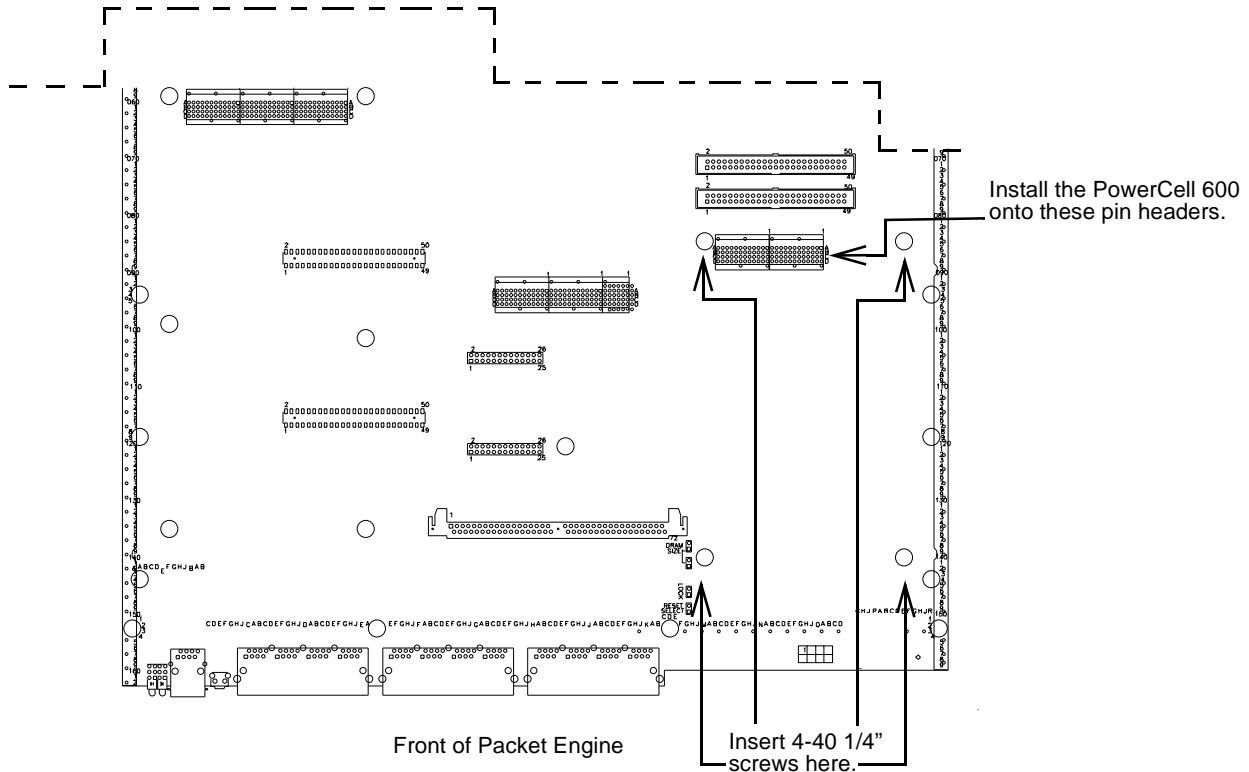

FIGURE 2–2 Where the PowerCell 600 is installed.
- A grounded work surface, such as a grounded metal table or a table covered with a grounded, rubberized mat. (See Section 2.1.2 on page 20.) Figure 2–2 shows where the PowerCell 600 is installed on the Packet Engine. Refer to this figure as you perform the following procedure.